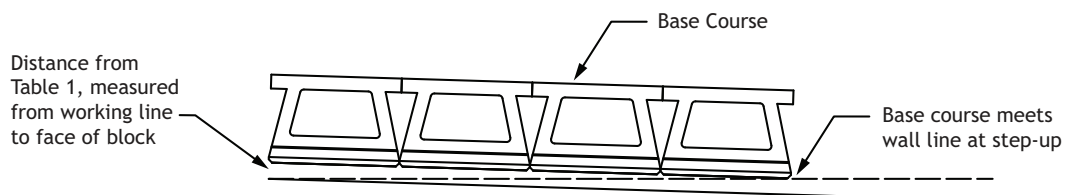

Figure 3: Base Course Construction
6. Start constructing your base course by measuring off the working line the distance shown in Table 1 for one block height. Figure 3 shows the base course construction. Going back to our example wall, using blocks from the AB Collection ( $6^\circ$ ), we would measure off the working line and place each block approximately 7/8 in. (21 mm) away from the Working Line.